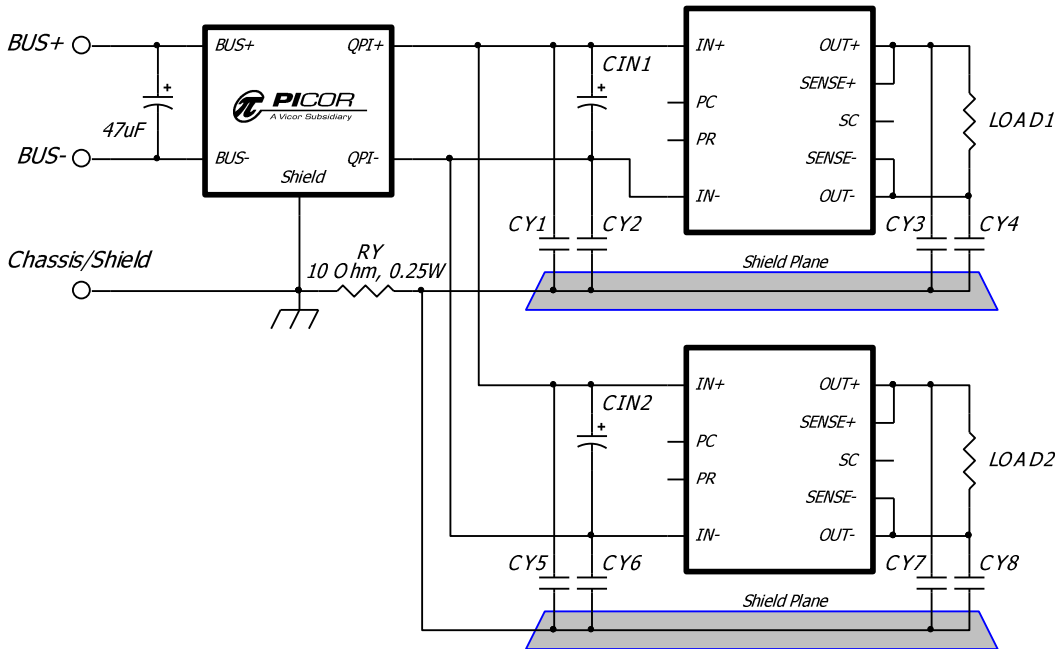

**Figure 12** - Current de-rating and power dissipation over ambient temperature range.
Note 2: See Figure 12 for the current de-rating curve.
The de-rating curve in Figure 12 is based on the maximum allowable internal component temperature and the 14A maximum rating of the QPI-6. The power dissipation curve is based on the current squared multiplied by the internal
**Note 4:** In Figures 12 and 13; CIN1 and CIN2, CY1 through CY8, should be the value and voltage rating recommended by the converter's manufacturer.